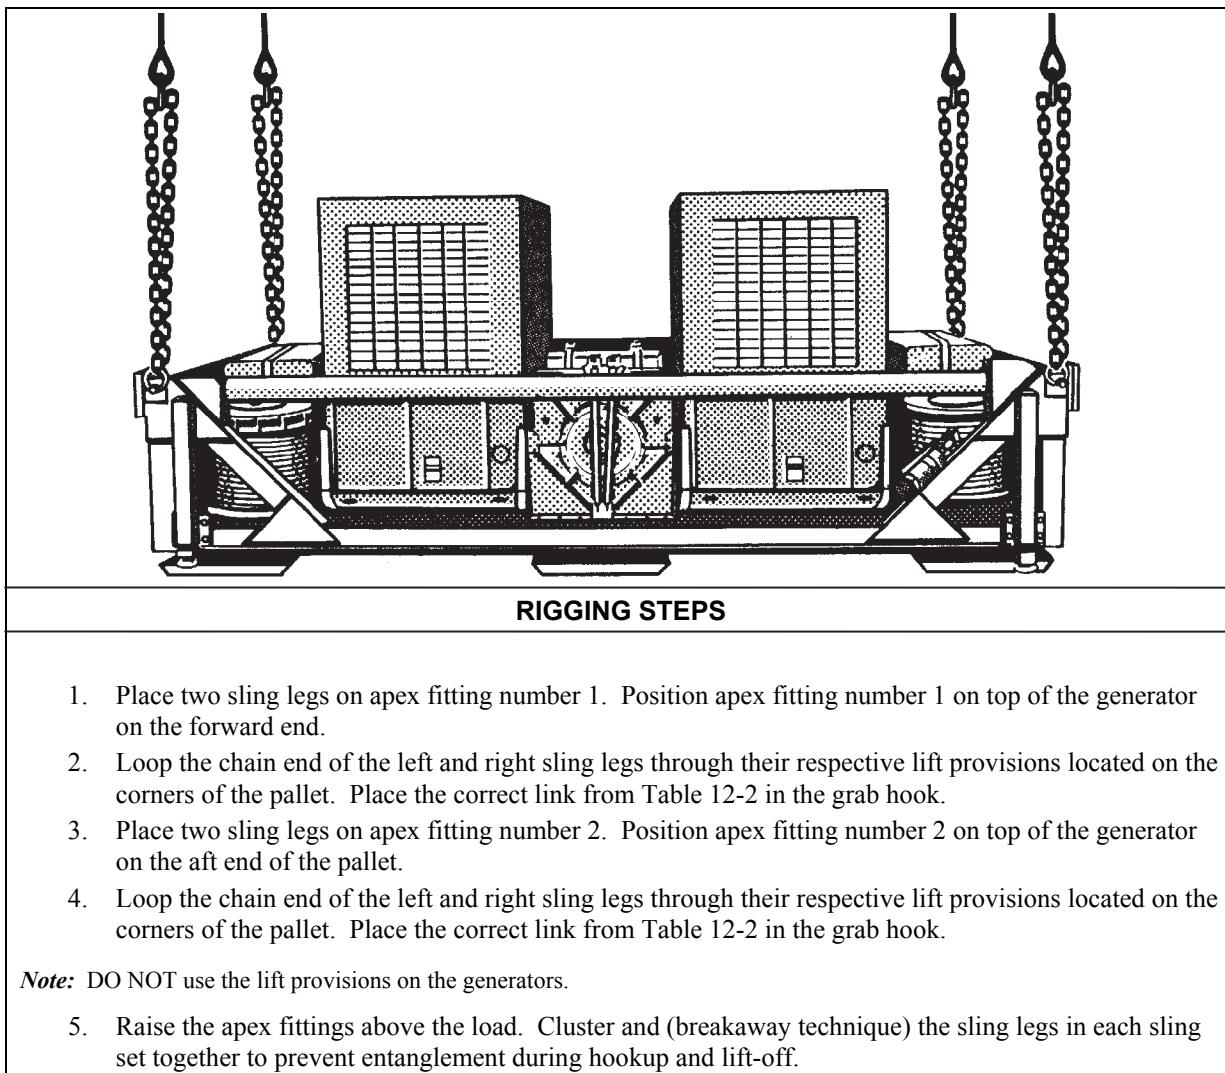

Figure 12-2. NATO Air Base SATCOM (NABS) Power Pallet, AN/TSC-85B (V)2
- **Rigging.** Rig the load according to the steps in Figure 12-2.